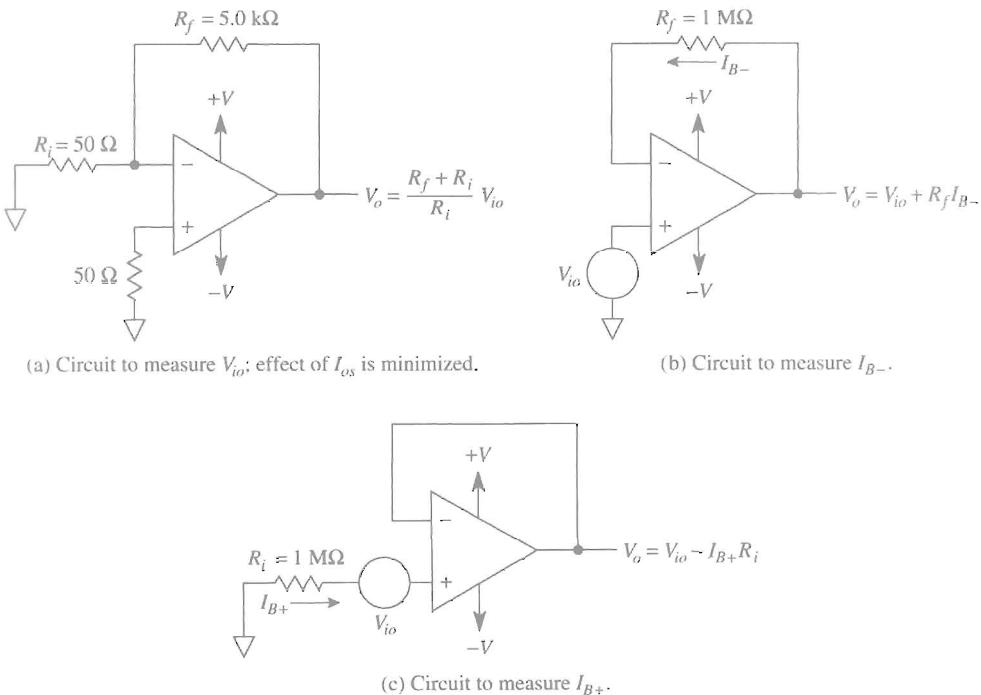

FIGURE 9-10 Procedure to measure offset voltage, then bias currents for a general-purpose op amp.
1. As shown in Fig. 9-10(a), measure V_o with a digital voltmeter and calculate input offset voltage V_{io} :
2. To measure I_{B-} , set up the circuit of Fig. 9-10(b). Measure V_o . Using the value of V_{io} found in step 1, calculate I_{B-} from
3. To measure I_{B+} , measure V_o in Fig. 9-10(c) and calculate I_{B+} from
The circuits of Fig. 9-10 are used with the resistance values shown for a 741 op amp. Results are $V_o = +0.421$ V for Fig. 9-10(a), $V_o = 0.097$ V for Fig. 9-10(b), and $V_o = -0.082$ V for Fig. 9-10(c). Find (a) V_{io} ; (b) I_{B-} ; (c) I_{B+} .
- 9-15.** $V_o = 101 \text{ mV}$ in the circuit in Fig. 9-10(a), $V_o = 201 \text{ mV}$ in Fig. 9-10(b), and $V_o = -99 \text{ mV}$ in Fig. 9-10(c). Find (a) V_{io} ; (b) I_{B-} ; (c) I_{B+} .